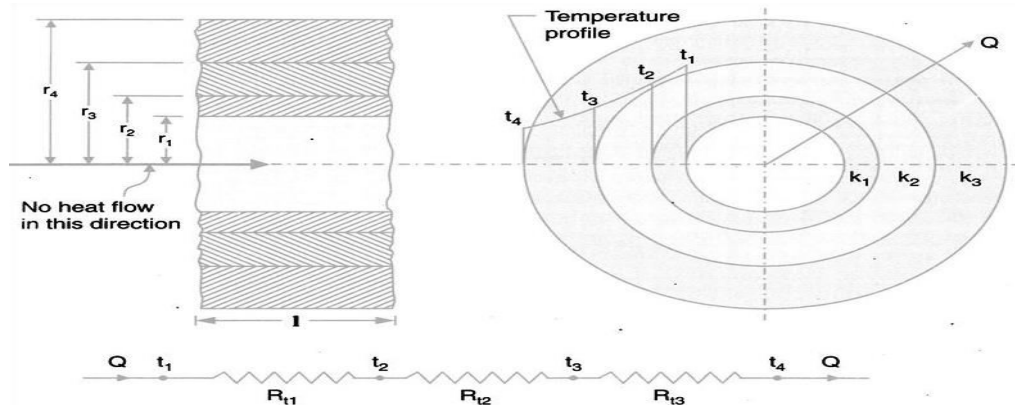

Fig. 2.11 Steady state heat conduction through a composite cylindrical wall
- Figure 2.11 shows conduction of heat through a composite cylindrical wall having three layers of different materials.